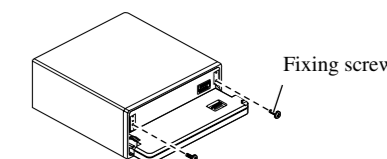

Fig. 13
**4. Fix the front panel to the unit using fixing screws. (Fig. 13)**